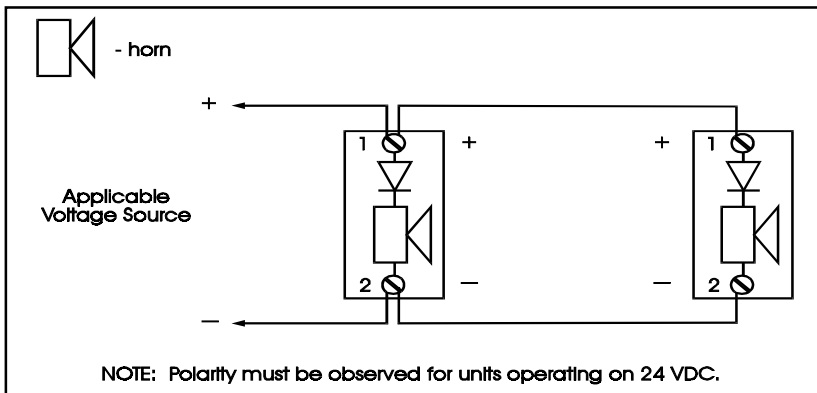

Figure 2. Wiring Diagrams
4. Connect the signaling circuit field wires to the terminals (Figures 2 and 3). Polarity must be observed for units operating on 24 VDC.